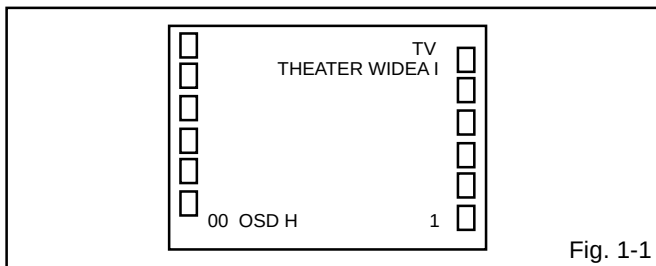

Fig. 1-1
1. In the condition of NO indication on the screen. Press the VOL. DOWN button on the set and the Channel button **(9)** on the remote control for more than 2 second to appear the adjustment mode on the screen as shown in **Fig. 1-1**.
4. Activate the adjustment mode display of **Fig. 1-1** and press the channel button **(01)** on the remote control to select "CUT OFF".
4. Activate the adjustment mode display of **Fig. 1-1** and press the channel button **(24)** on the remote control to select "R.BIAS".
6. Adjust the VOL. UP/DOWN button on the remote control to whiten the R.BIAS(C), G.BIAS(C), B.BIAS(C), R/G.DRV(C), B/R.DRV(C), R.BIAS(W), G.BIAS(W), B.BIAS(W), R/G.DRV(W) and B/R.DRV(W)" at each step tone sections equally.
3. Activate the adjustment mode display of Fig. 1-1 and press the channel button (00) on the remote control to select "OSD H".
6. Activate the adjustment mode display of Fig. 1-1 and press the channel button (02) on the remote control to select "H.POSI".
9. Activate the adjustment mode display of Fig. 1-1 and press the channel button (04) on the remote control to select "H. SIZE".
7. Activate the adjustment mode display of Fig. 1-1 and press the channel button (11) on the remote control to select "V. CENT".
10. Activate the adjustment mode display of Fig. 1-1 and press the channel button (05) on the remote control to select "V. SIZE".
7. Activate the adjustment mode display of **Fig. 1-1** and press the channel button **(06)** on the remote control to select "V. LIN".
4. Activate the adjustment mode display of **Fig. 1-1** and press the channel button **(43)** on the remote control to select "BRI CENT".